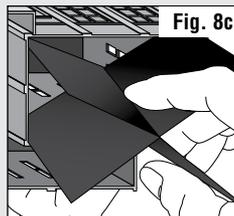

Fig. 8c
- Insert into Main Building (**Fig. 8c**).